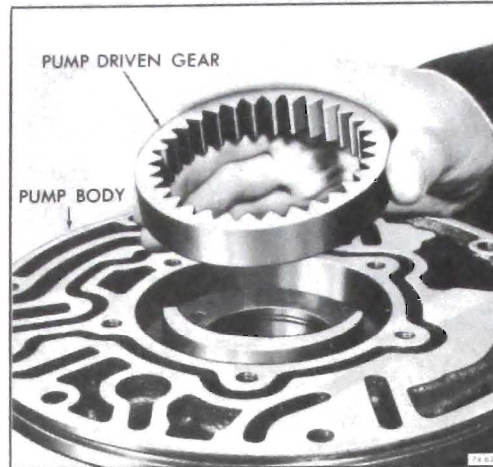

Figure 76-635
1. Install drive and driven pump gears into the pump body with alignment marks up. See Figures 76-635 and 76-636.